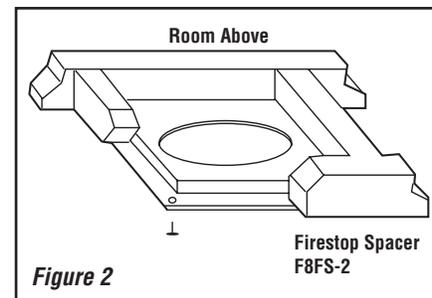

Figure 2
Step 1. Before continuing, check the operation of the damper, as described on **Page 4**, (refer to **Figure 2**) of the *Installation Instruction and Care and Operations (IICO)* manual.
Note: If there is a room above ceiling level, firestop spacer must be installed on the bottom side of the ceiling. If an attic is above ceiling level, firestop thimble must be installed on the bottom side of ceiling joist (**Figure 2**).